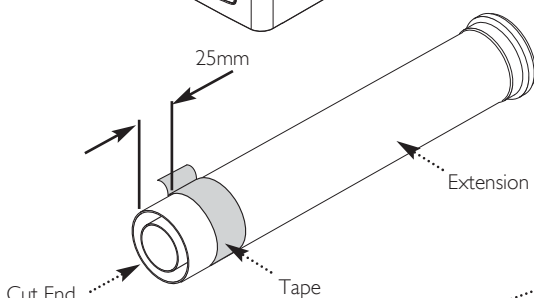

Fig. 38
16. Measure 25mm from the end of the flue extension and apply a length of tape around the outer duct (Fig. 38).